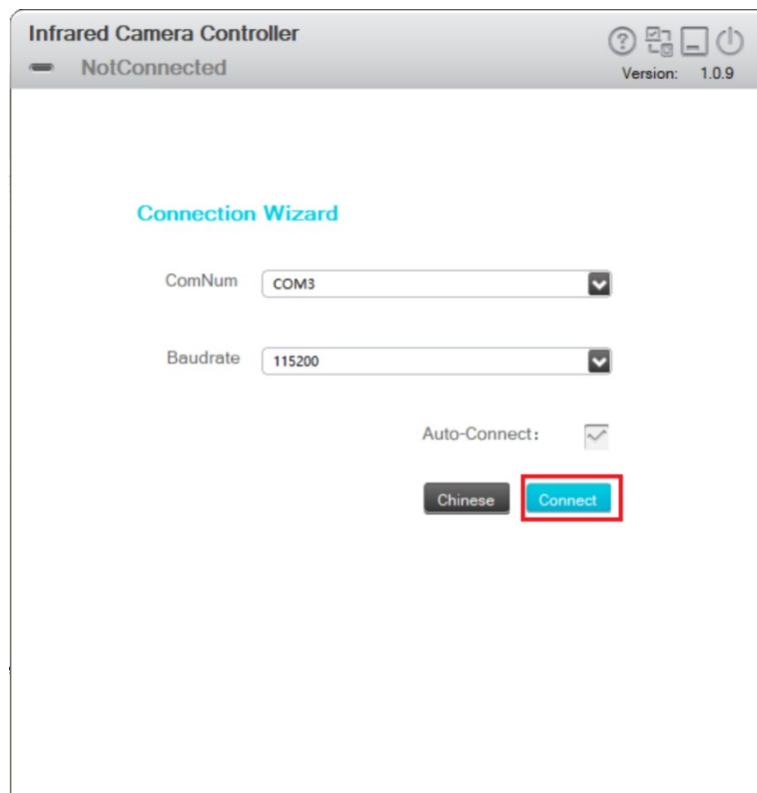

Figure 4-14 Connection wizard interface in English
5. Click "Chinese" to select the Chinese language version, or click "English" to select the English version, the connection wizard interface in English is shown in figure4-14.